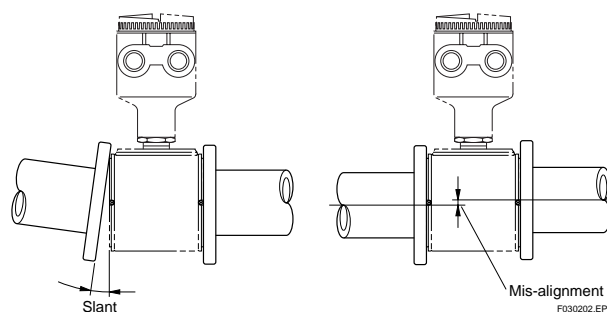

Figure 3.2.2 Slant and Mis-alignment of Flow Tube Piping
- Please correct mis-alignment or slanted piping and improper distance between mounting flanges before install the flow tube. (Please refer to Figure 3.2.2)